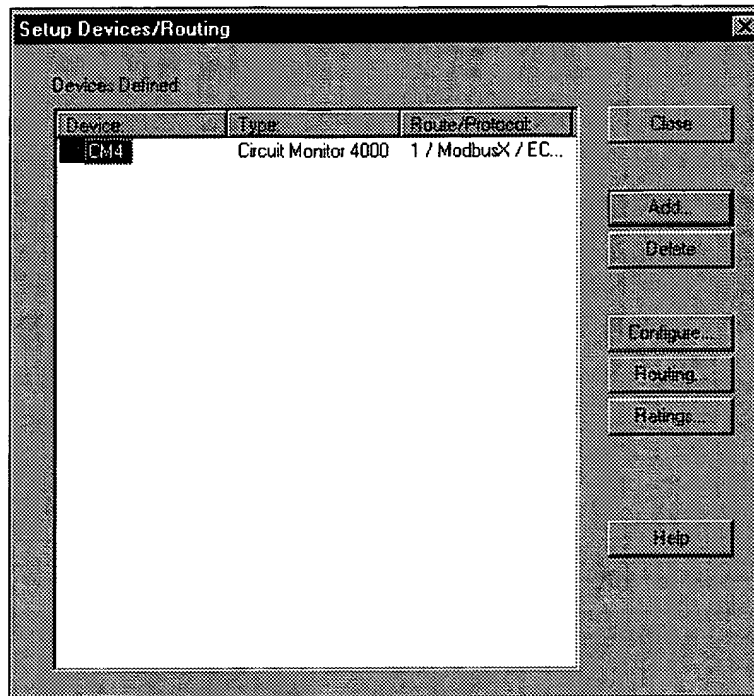

Figure A-4 Setup Devices/Routing dialog box
1. On the Setup menu, click Devices/Routing... to display the Setup Devices/Routing dialog box (Figure A-4). This dialog box also lists all previously defined devices along with their device types and routes.